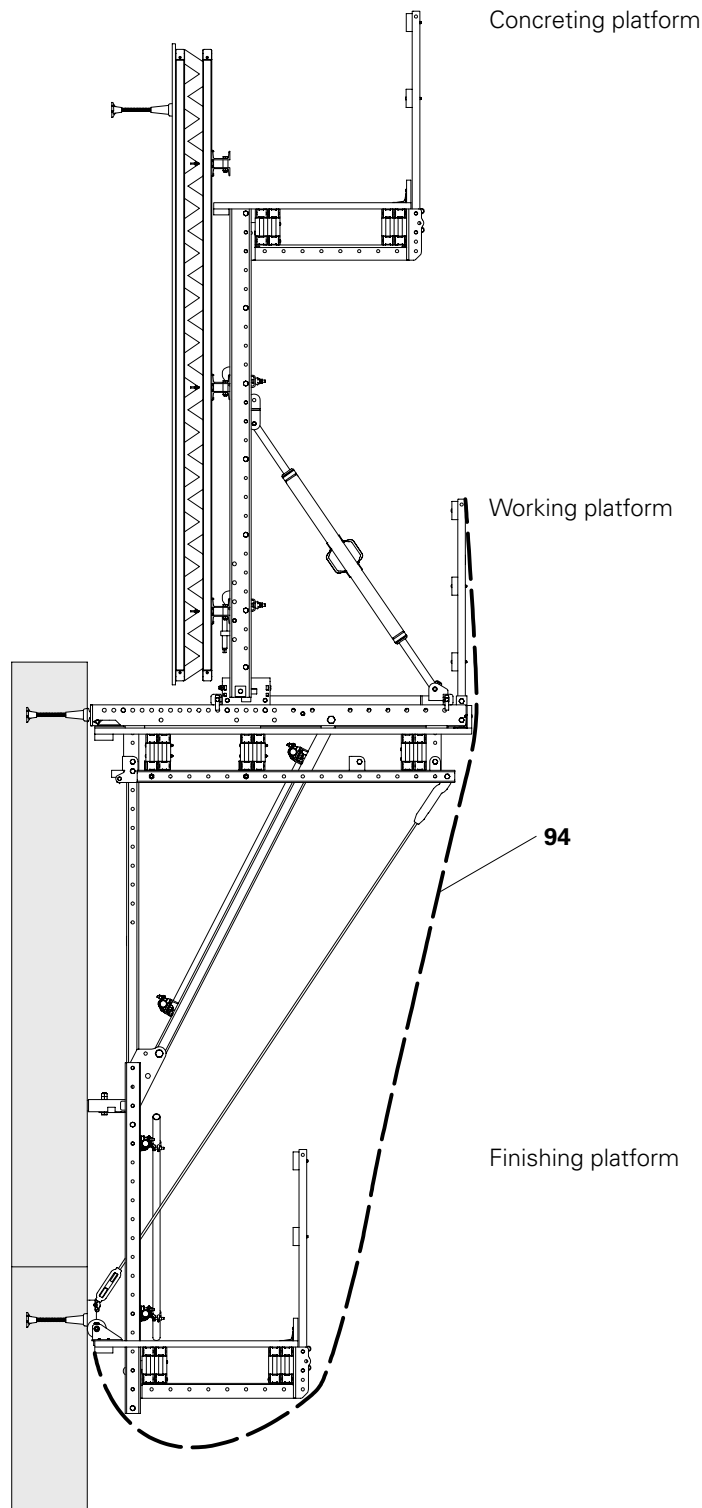

Fig. A1.01
- During working operations, we recommend a maximum distance of 20 mm between neighbouring platforms. Cover larger gaps with suitable and securely fitted materials. Alternative: use safety netting (94) with mesh size  $\leq 20$  mm.
- (Fig. A1.01)